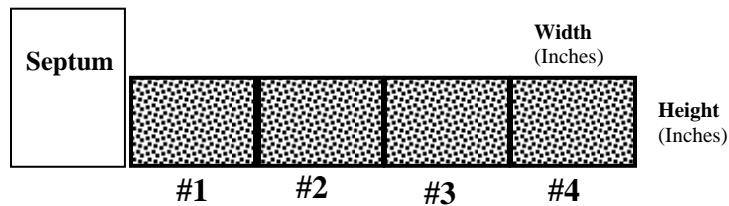

Figure 2- Conductor Identification
- Measure the conductor cross-sectional dimensions with Vernier calipers using light pressure. Record the measured data in space below. [Figure 2- Conductor Identification and Table 1 -Measured conductor cross-section- Side A:]